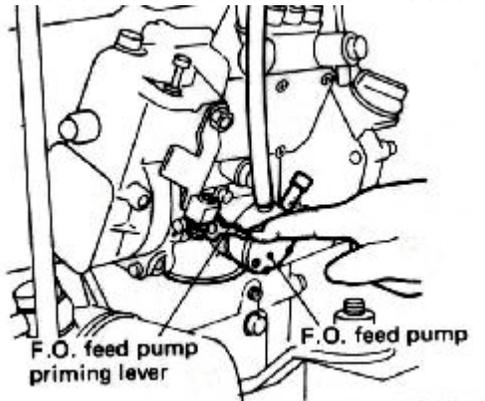
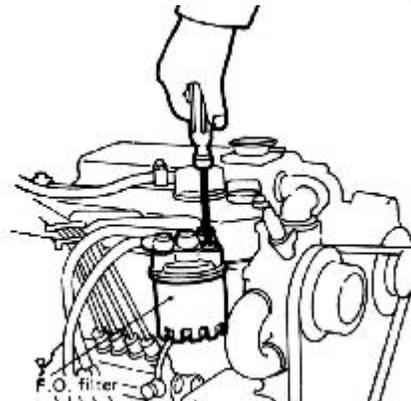

Figure 1
Figure 2
6. Loosen bleeder screw above secondary filter (figure 2 below) and use the manual feed pump priming lever (figure 1) to fill the new filter with fresh diesel to bleed off all air. You may have to pump awhile until fuel starts pumping out of the bleed screw above the filter. As soon as fuel starts to come out- close the bleeder screw.